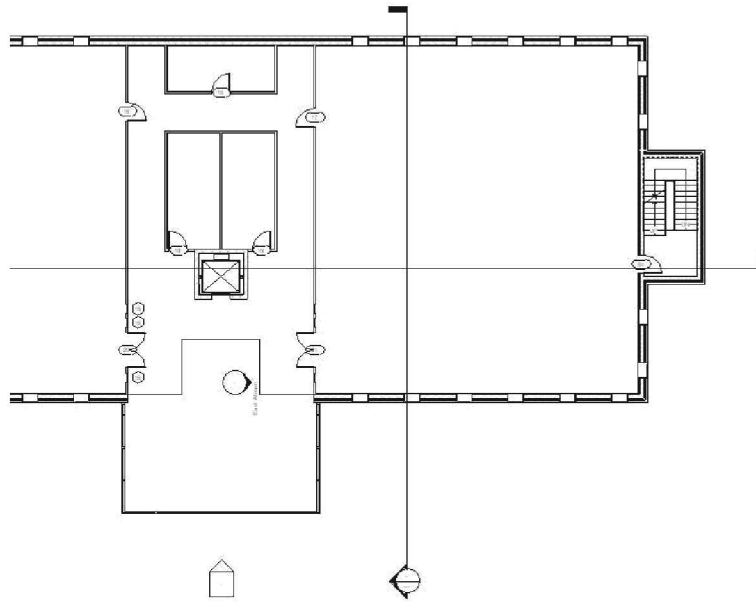

FIGURE 10-2.2 Level 2 view
- Switch to the **Level 2** view (Figure 10-2.2).